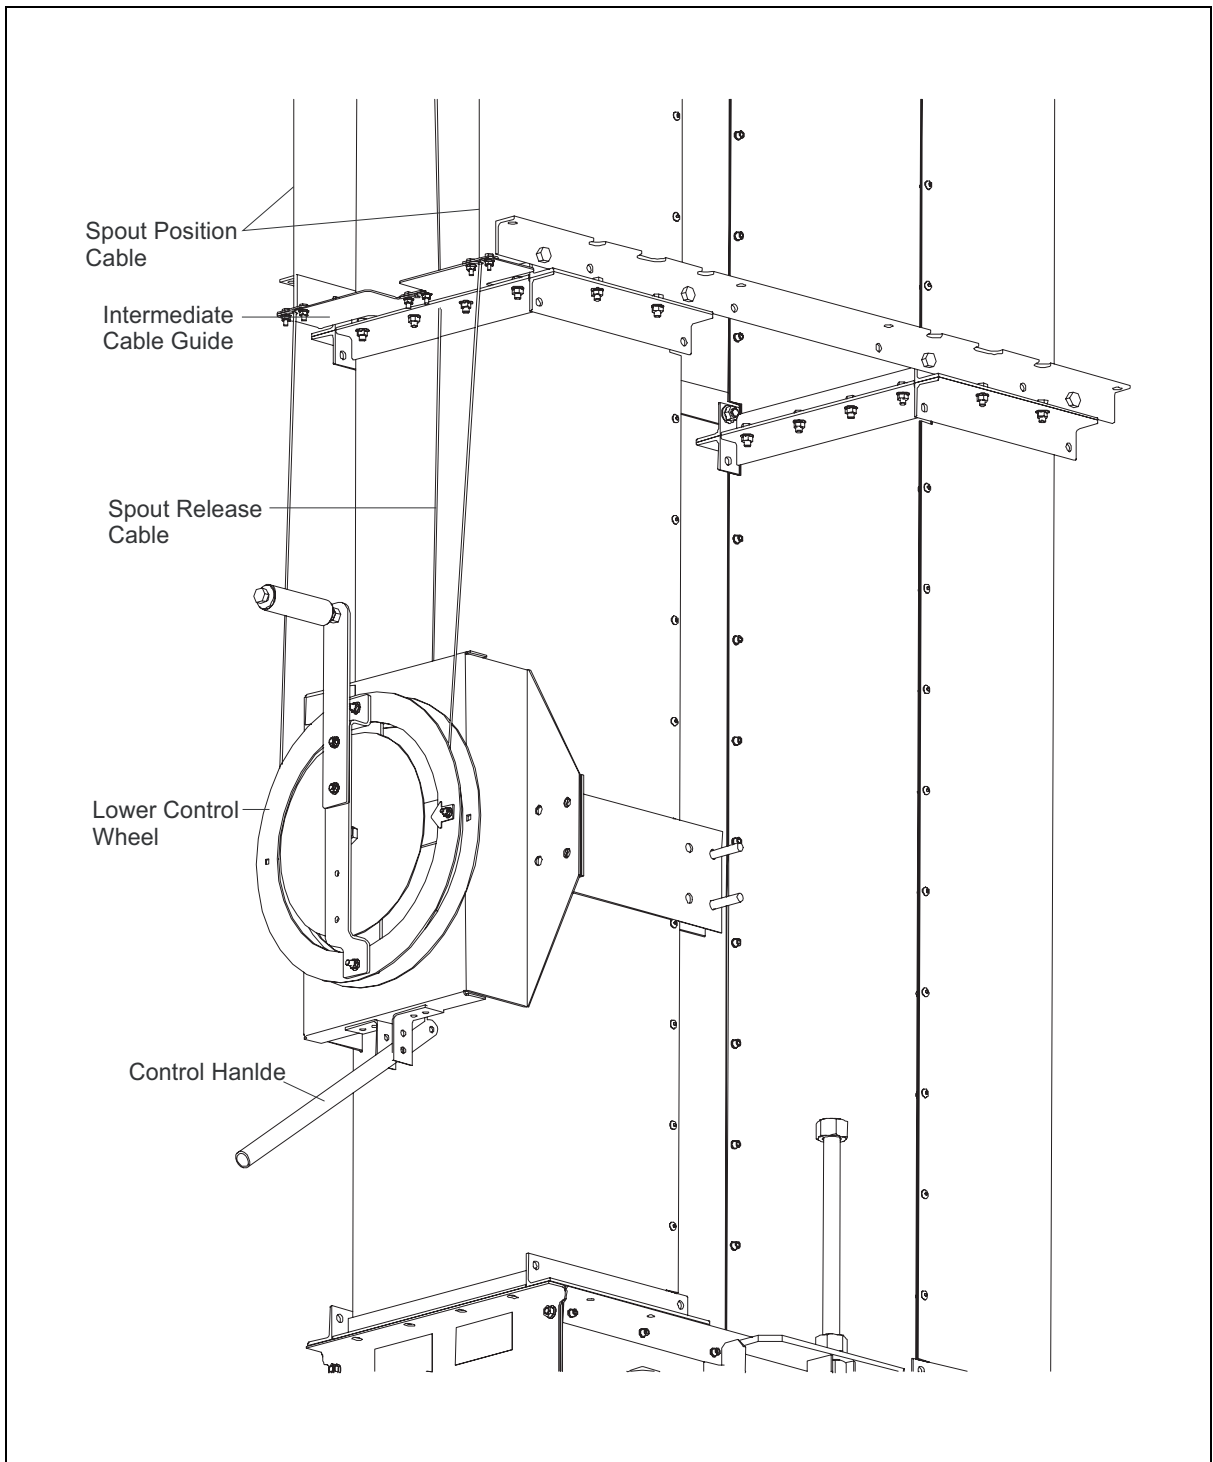
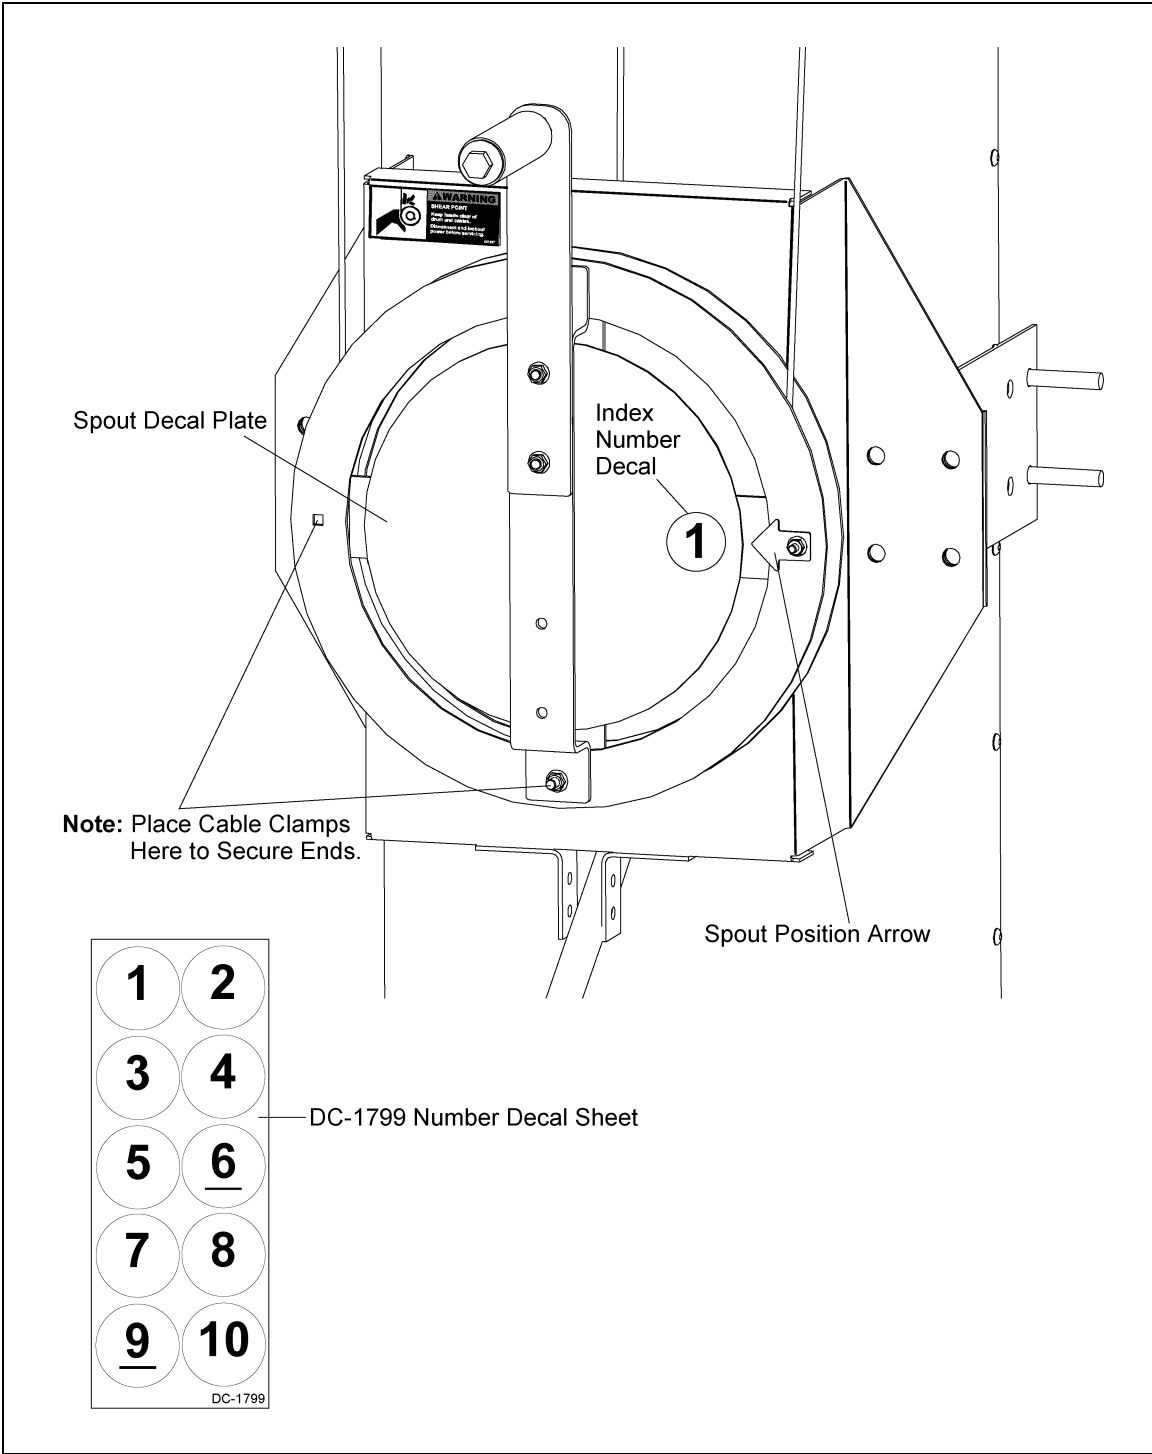

Figure 5M
Figure 5N
Run both ends of the cable through the cable guides (See Figure 5L), continue down through the intermediate cable guides along trunking (See Figure 5M on Page 20), down to the lower cable wheel. Wrap each end of the cable 1 full wrap and then cable clamp both ends (See Figure 5N on Page 21).
This cable is used to release the index trigger so that the spout can be turned. This cable should be able to reach from the control handle at the bottom side of the lower control wheel (See Figure 5M on Page 20), up over the center pulley of the cable guide assembly, under the connector pulley assembly, and tie off at the index trigger (See Figure 5L). Allow some extra cable to be able to tie off at both ends.
2. Using the Index Number Decal (Decal part number DC-1799), peel off one of the numbers (numbered 1 through 10) and place on the Spout Decal Plate in front of the Spout Position Arrow (See Figure 5N on Page 21).